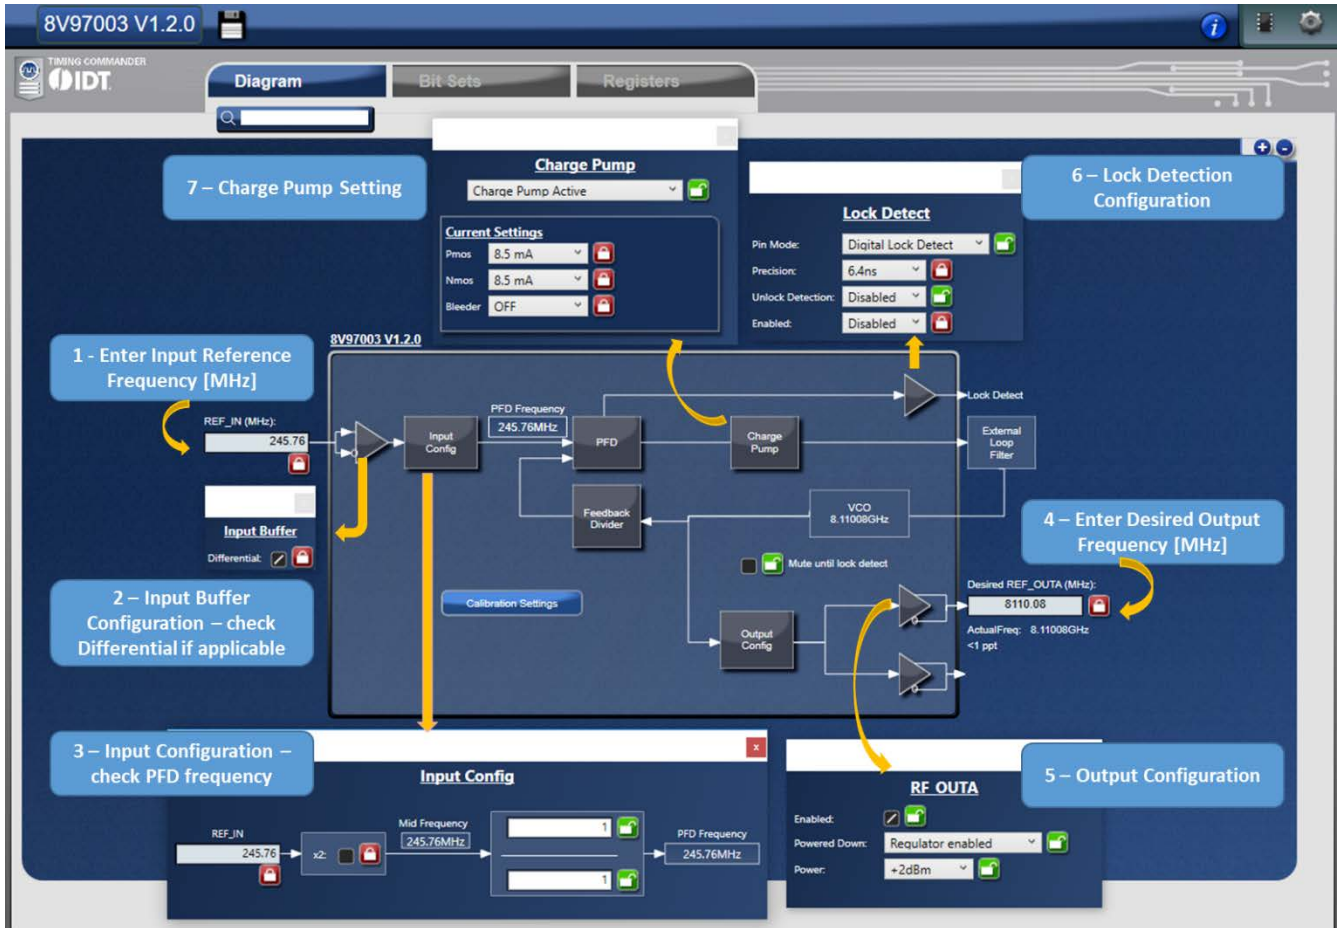

Figure 19. Timing Commander GUI for Creating New Integer Mode Configuration
- c. Set Pmos = 8.5mA, Nmos = 8.5mA, Bleeder = 1100 μ A to improve phase noise performance as shown in Figure 19.